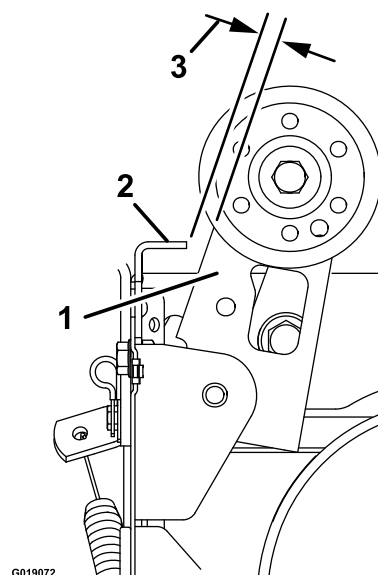

Figure 36
- Adjust the turnbuckle until the gap between the broom clutch assembly and the tab is 3 mm (1/8 inch) (Figure 36).